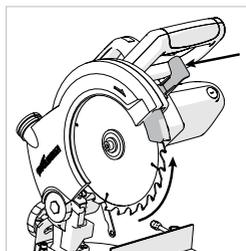

Fig. 25
- Press the lower blade guard locking lever (a) and rotate the lower blade guard (b) up and into the upper blade guard. **(Fig. 25)**